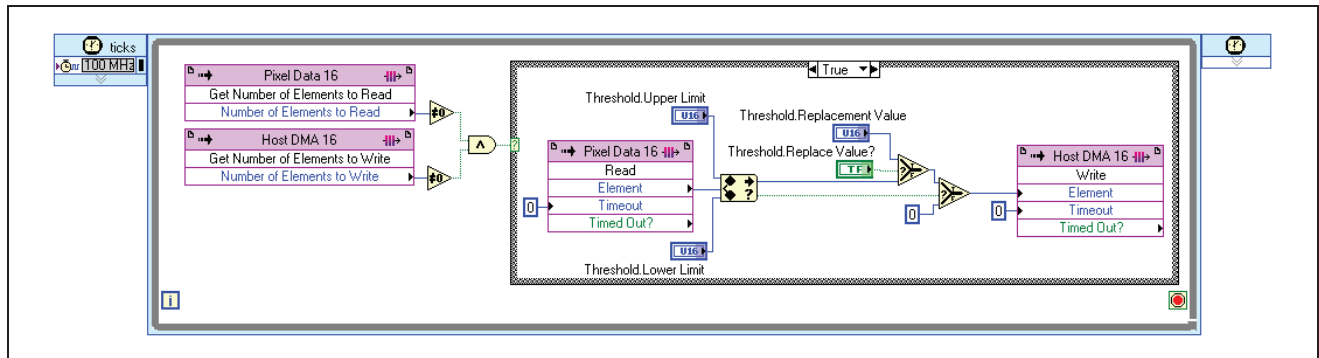

Figure 8. Threshold Loop
23. Refer to Figure 8 while completing the following steps to build the threshold loop.
- h. Complete the threshold loop by wiring the block diagram as shown in Figure 8. The U16 control names are **Threshold.Upper Limit**, **Threshold.Lower Limit**, and **Threshold.Replace Value?**. The Boolean control name is **Threshold.Replace Value?**.